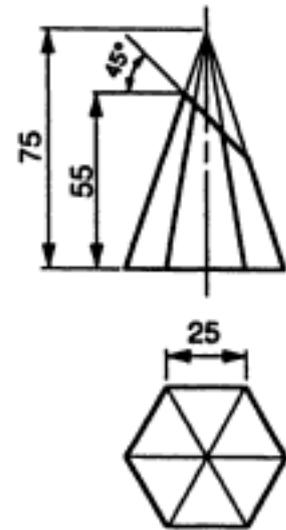

Fig 6.47
- 5 Develop the six sloping sides of the truncated hexagonal pyramid shown in fig 6.47.